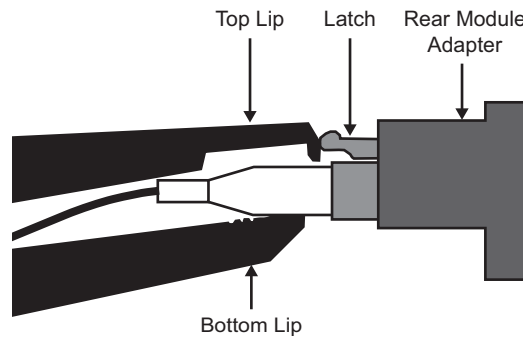

Figure 2.7 Positioning the Optic Cable Tool — Single-Latch Connector
1. Position the bottom lip of the Optic Cable Tool on the connector boot, ensuring that the top lip makes contact just behind the notch at the end of the latch. (**Figure 2.7**)